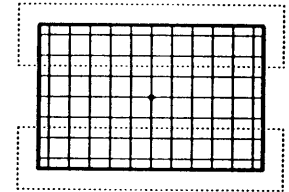

FIG. 5
- c) Adjust PIN-GV, the top and bottom of the pattern will move in and out, adjust it so that the top and bottom lines are at their most horizontal point. See Fig. 5